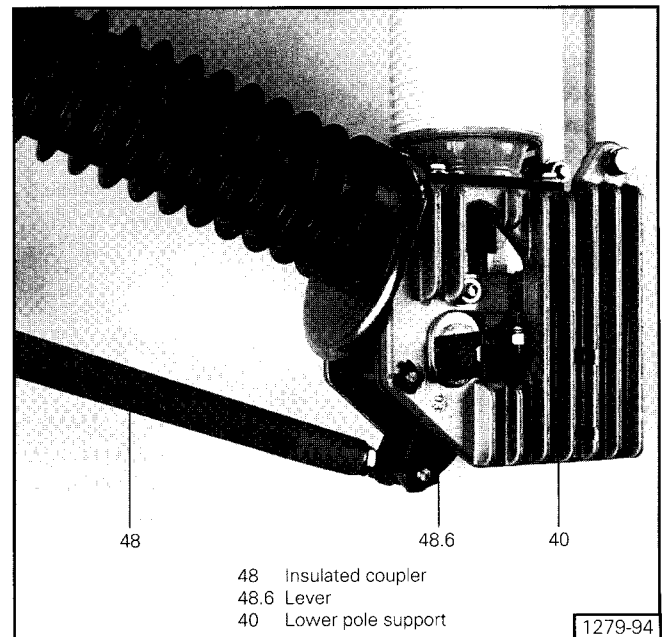

Figure 38. Lower Pole Support with Insulated Coupler
Open and isolate the breaker and detach the insulated coupler (48) from lever (48.6) (**Figure 38**).